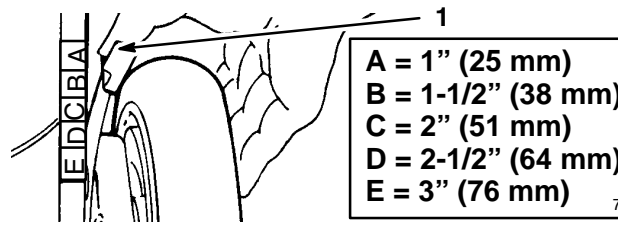

Figure 10
The height of cut can be adjusted to five settings (Fig. 10). For normal cutting, set all four wheels in the same position.
4. Squeeze the adjusting lever toward the wheel and move it to the desired setting (Fig. 10). Ensure that the pin on adjusting lever engages the hole in the bracket.